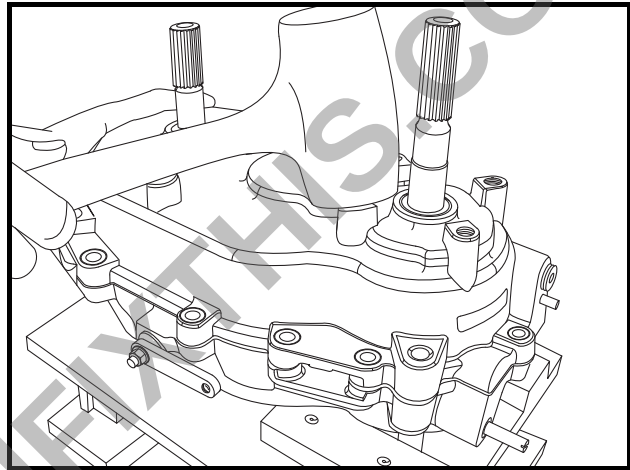

Figure 16-89 Transmission Case Assembly
14. Gently press on the case and allow the bearings to begin seating in the case. Gently tap on the case at positions close to each shaft area to help seat the bearings and sealant (**Figure 16-89, Page 16-26**).